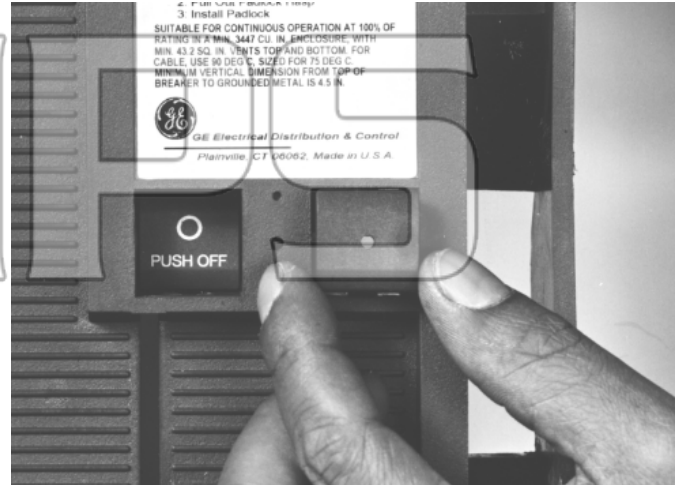

Figure 5. Installing the replacement On button into the breaker cover.
6. Slide the replacement On button into the slot on the front of the breaker cover, as shown in Figure 5, then press it in until the locking tabs click into place.